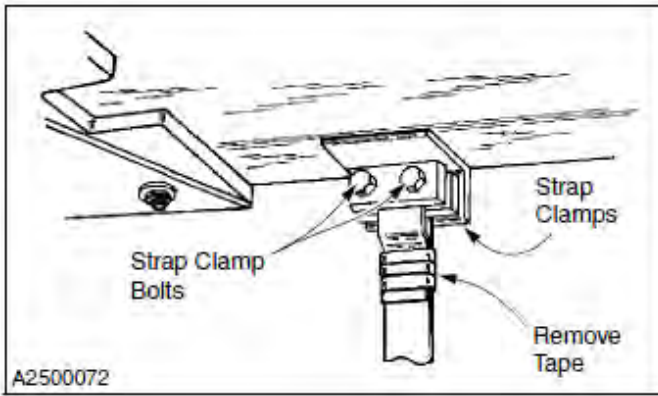

Figure 63
- To adjust the rear windbar, loosen the rear strap clamp bolts and move the windbar up and down, as required, by moving the strap up or down through the clamps. Retighten the strap clamp bolts when the windbar is in the correct position. (See Figure 63.)